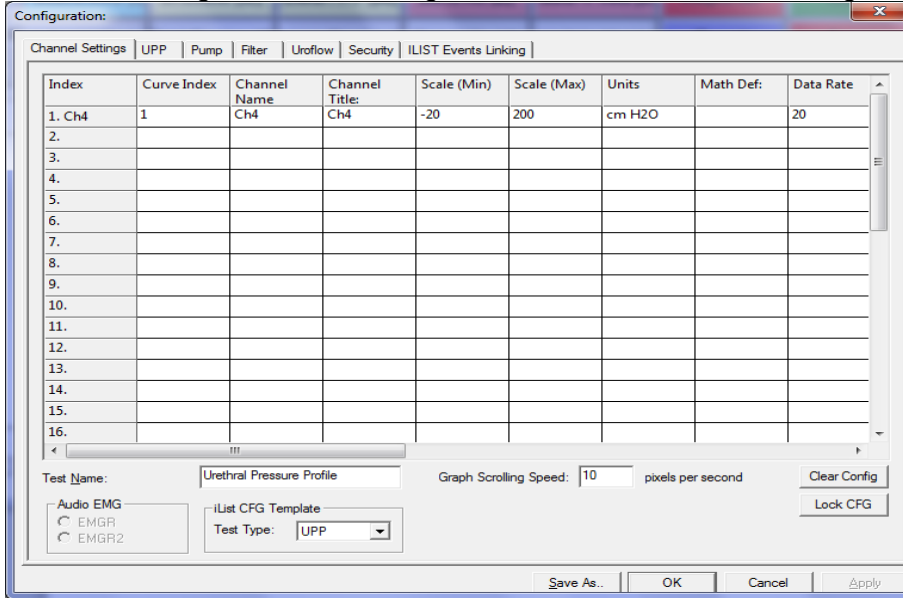

Figure 98: Configuration Window – Channel Settings
- Add **Ch4** to the channel settings with the following data and click **OK**. (as shown in Figure 98)